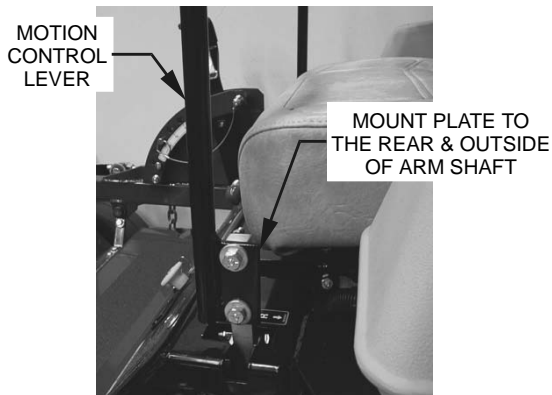

FIGURE 4
- 3.5.1 Loosen and remove the two (2) 3/8" x 1" bolts and spring disc washers which attach the motion control levers to the control arm shafts for shipping and the two (2) 3/8" x 1" bolts and spring disc washers which are screwed into the control arm shafts.
- a) Install the left motion control lever onto the control arm shaft (See Figure 4) on the left side of the console. Place the lever (with the mounting plate towards the rear) on the **outside** of the control arm shaft and secure with the bolts and washers. Position the lever so the bolts are in the center of the slots on the lever mounting plate and tighten until snug. Repeat on opposite side of unit.